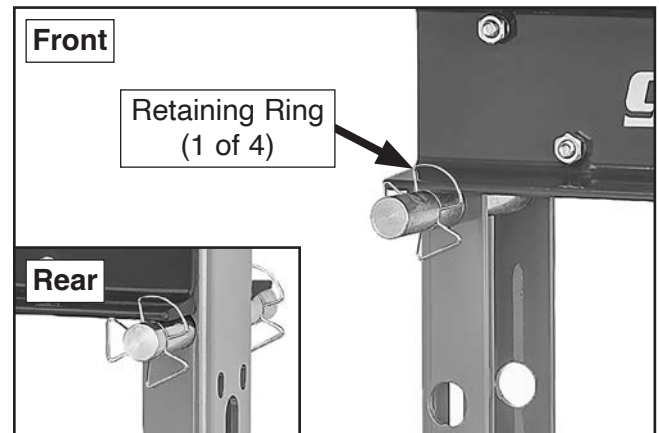

Figure 18. Example of retaining rings on support rods (bed shown in place for reference).
4. Remove (2) retaining rings on rear of support rods, then remove (2) support rods and insert them in bed adjustment holes at desired height (see **Figure 18**).
5. Install (2) retaining rings removed in **Step 4** on rear grooves in support rods to secure (see **Figure 18**).